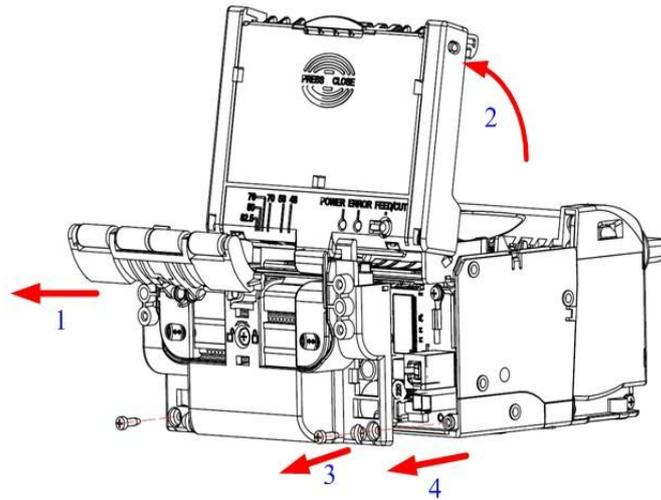

Fig. 5.1-2 Mark sensor cleaning
- 1) Remove the buffer module, rear cover fixing screws, and rear cover module in the order and directions shown in the Fig. 5.1-2;